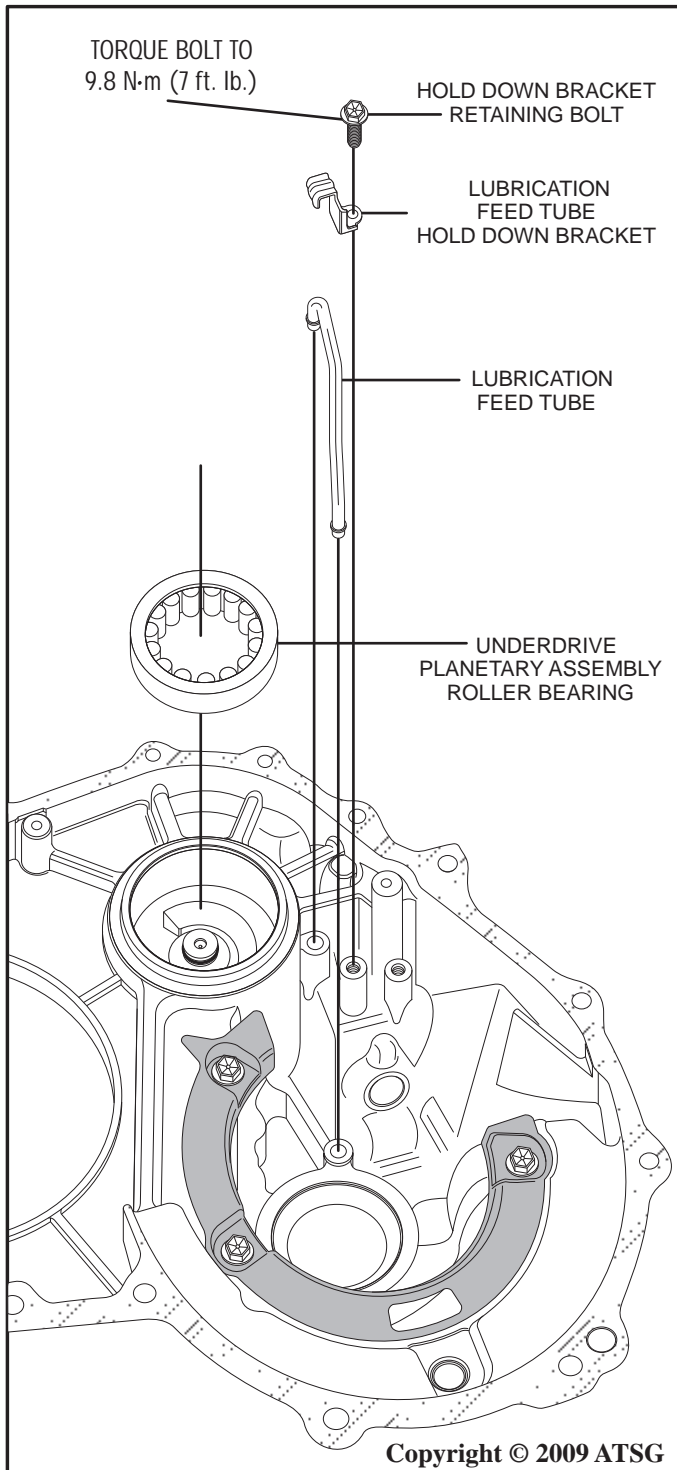

Figure 64
11. Carefully inspect the lubrication feed tube for defect, replace as necessary and install into the torque converter housing as shown in Figure 64.
12. Install the lubrication feed tube hold down bracket and the hold down bracket retaining bolt and torque the bolt to 9.8 N·m (7 ft. lb.) as shown in Figure 64.
13. Carefully inspect the underdrive planetary assembly roller bearing for defect, replace as necessary, and install roller bearing into the torque converter housing using SST 09950-60020, (09951-00810), 09950-70010, (09951-07100) or an appropriate bushing driver, then coat with a small amount of ATF as shown in Figure 64.